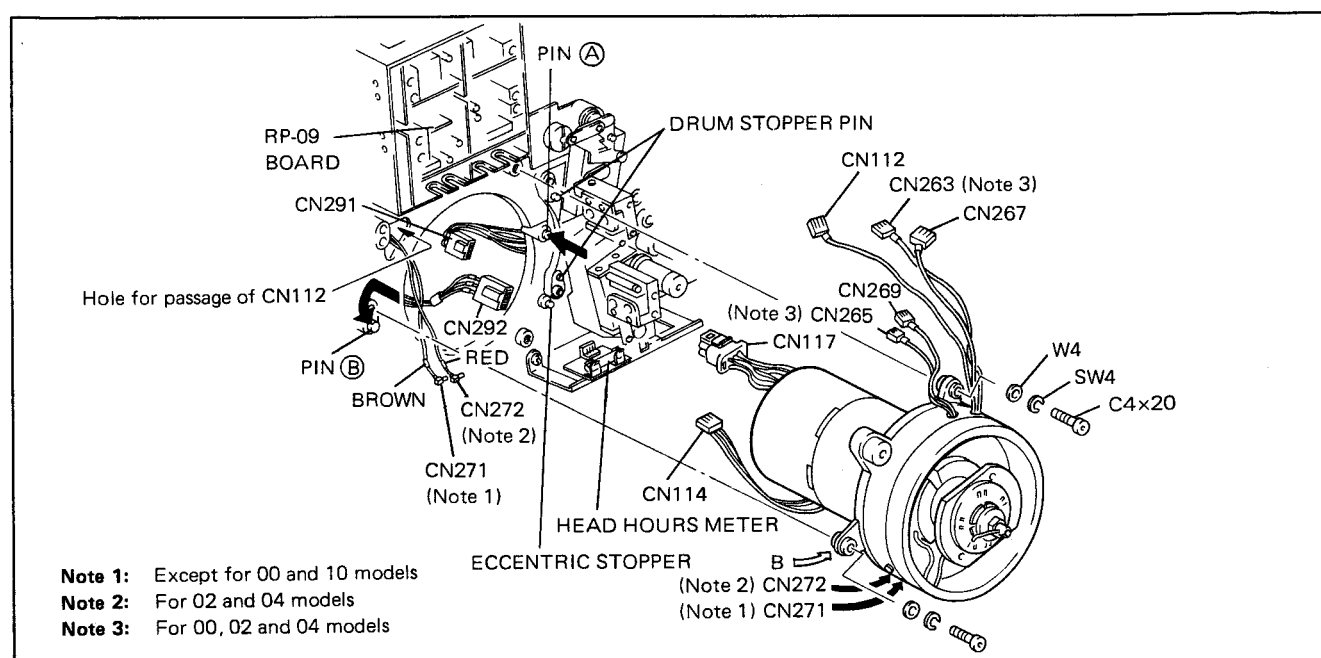

Fig. 6-17. Lower Drum Assembly Installation
14. Pass the connectors CN114 and CN117 through the hole in the base plate to the rear. Match the guide hole of the drum slant table to the pin A, and press the point B of the drum slant table against the pin B as shown in Fig. 6-17. Confirm that there is no clearance between the drum slant table and the bosses on the base plate and fix the lower drum assembly with three C4×20 screws, W4 and SW4 washers.
16. For 02, 12, 04 and 14 models, put the connectors CN271 and CN272 (Except for 12 and 14 models) and in the positions shown in Fig. 6-17.
32. While pushing the movable guide assembly simultaneously in both directions of the lower drum assembly and the eccentric stopper shown in Fig. 6-17, tighten the four screws securely.